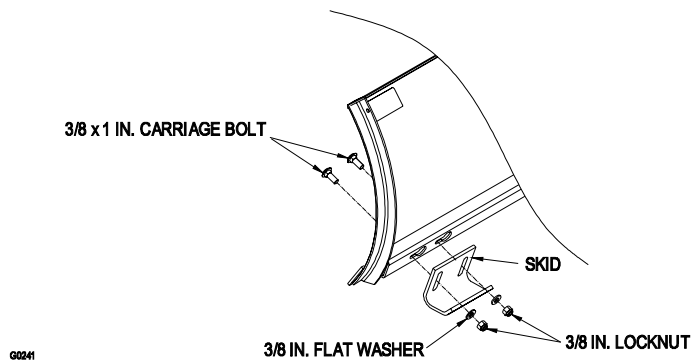

Figure 2
4. Attach the skids to the blade with 4 carriage bolts (3/8 X 1 in.), flat washers (3/8 in.) (Fig. 2). Position the skids according to what type of surface you will be plowing. Position the skids lower for plowing rough surfaces or higher for plowing smoother surfaces.